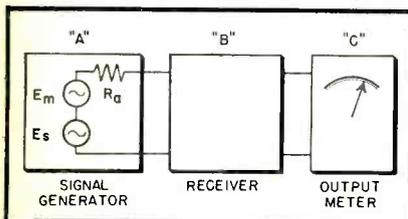

Fig. 2. Block diagram of setup for measuring noise figure
To illustrate the measurement of noise figure at conventional frequencies assume that we have a low-frequency broadcast receiver or the i-f strip of a microwave receiver connected as shown in Fig. 2. "A" is a standard unmodulated signal generator calibrated in microvolts, "B" is the receiver under test, and "C" is the meter used for output indication.  $R_a$  represents the impedance from which the receiver is designed to operate and consists of the generator output impedance plus any necessary additional resistance.  $E_n$  represents the noise voltage due to  $R_a$  and is present whether the signal generator is turned on or off.  $E_s$  represents the signal voltage generated by the genera-
A standard "constant resistance" type of cross-over filter was built and produced the results shown in *Fig. 2*. The cross-over at about 1600 cps was approximately as calculated and the dip
**Fig. 1** (left) Distortion characteristics of high-quality 12-inch loudspeaker with (solid line) open back cabinet. Dotted curve shows reduction in distortion obtained by using bass reflex speaker and dashed curve improvement obtained by dual speakers with cross-over filter. **Fig. 2** (right) Frequency response using cross-over filter with constants shown when terminated by pure resistances
at this point is nearly correct to produce constant sound output for the two speakers if their outputs are aiding. Beyond cross-over, the output of each speaker should be rapidly attenuated so the sum of their outputs will be approximately equal. The curve of Fig. 2 was excellent but the same filter produced the results shown in Fig. 3 when connected to two loudspeaker voice coils and a standard high quality output amplifier. The cross-over frequency is changed by the speaker moving coil inductance and the effects magnified by poor impedance match to the output amplifier.
Fig. 3. Frequency response of cross-over filter of Fig. 2 showing poor results obtained when loudspeaker voice coils are substituted for resistances. Fig. 4. Response curves for cross-over network with constants shown for resistance (dotted curve) and loudspeaker loads. This filter is likewise considered unsatisfactory, even worse than that of Figures 2 and 3